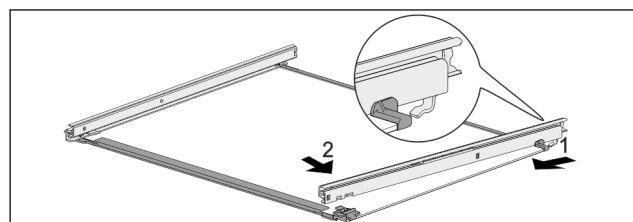

Fig. 118 Glass shelf with rails
- Hook in rail at the back. Fig. 118 (1)
- Hook in rail at the front. Fig. 118 (2)